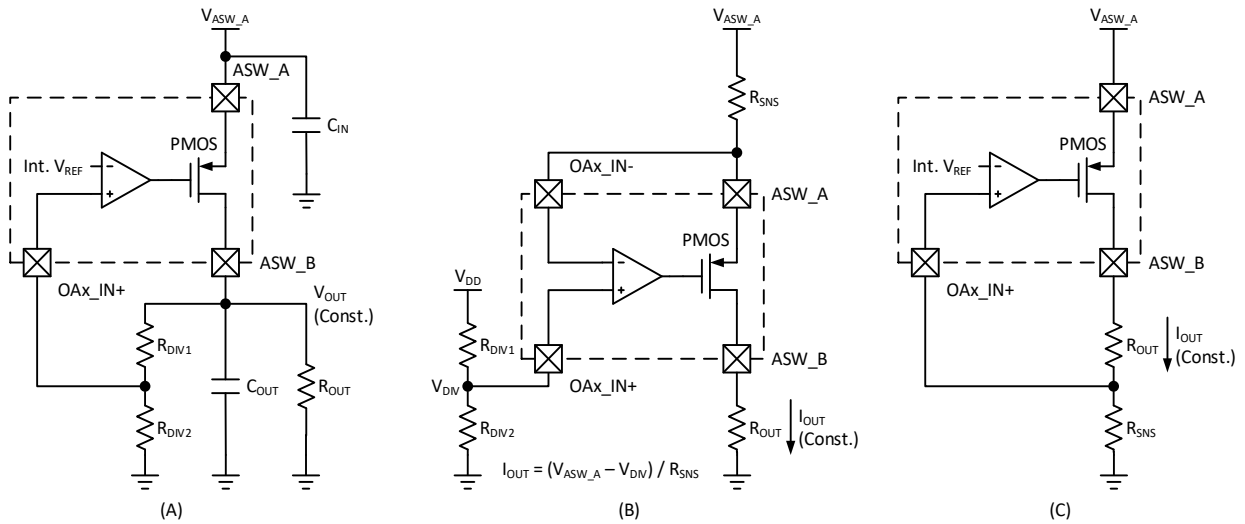

Figure 71. Typical Implementation of Voltage Regulator (A) and Current Sources (B and C)
In this mode, the OpAmp output is used to drive gate voltage for the PMOS of the analog switch. The OpAmp switch control mode is enabled by setting the ASW_MODE bit to ‘1’. When the OpAmp switch mode is disabled ($ASW_MODE = 0$), the output of OpAmp0 ($OA0_OUT$) is disconnected from the gate of the PMOS. Figure 71 (A) shows a typical implementation of the voltage source function. Optionally, this mode can be used to implement a constant current-source with load connected to ground as shown in Figure 71 (B) and (C).